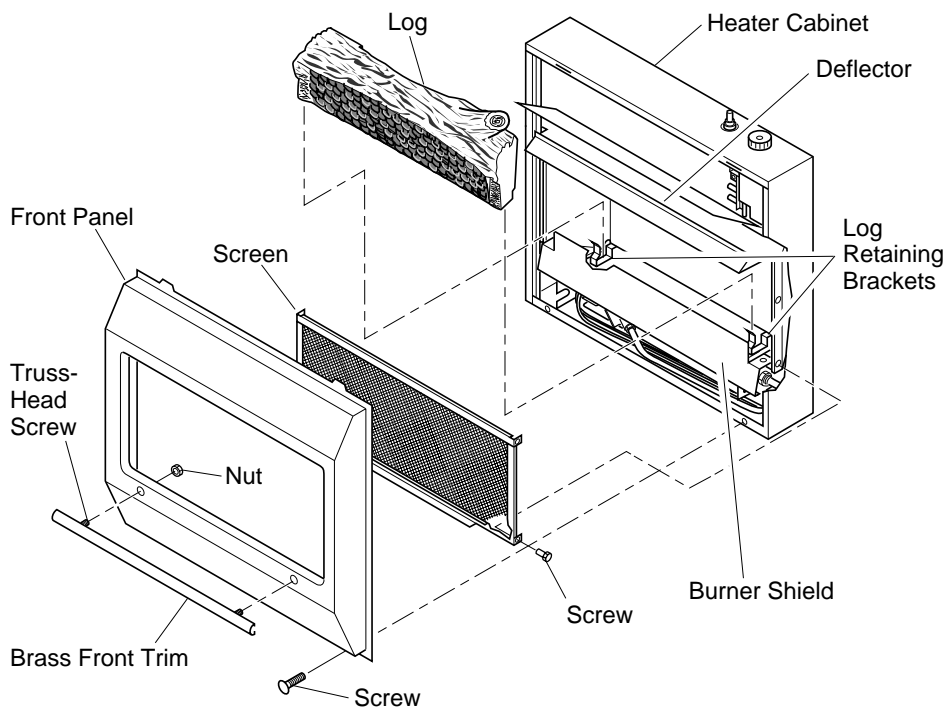

**Figure 3 - Attaching Ignitor Cable to Piezo Ignitor**
2. Attach ignitor cable to piezo ignitor (see Figure 3).